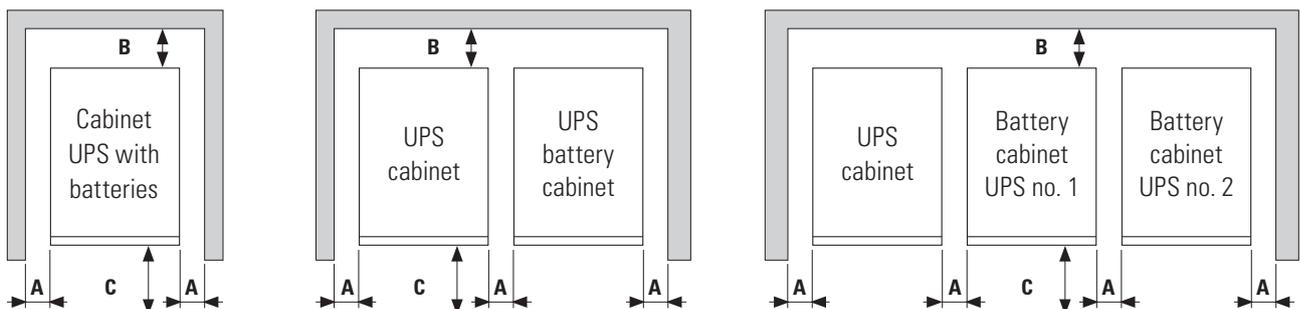

Fig. 21. Minimum peripheral dimensions for ventilating the UPS.
- By way of example, *Fig. 21* shows configurations composed of a single UPS cabinet: a UPS with batteries inside, a UPS with an external battery cabinet and a UPS with extended autonomy with two external battery cabinets.